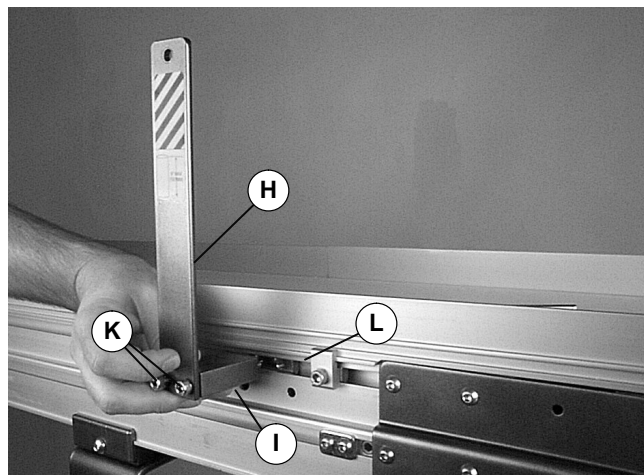

Figure 6
3. Loosely attach support bracket (H of Figure 6) and spacer (I) to T-bar (L) with screws (K).